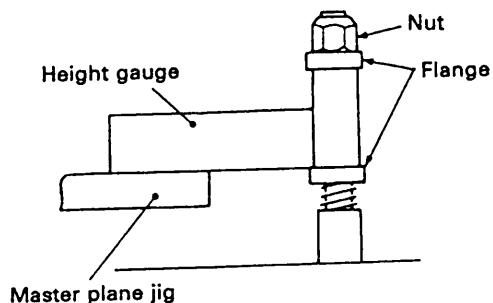

Fig. 4 Guide pole height adjustment
- Set the height gauge on the master plane jig as shown in Fig. 4.